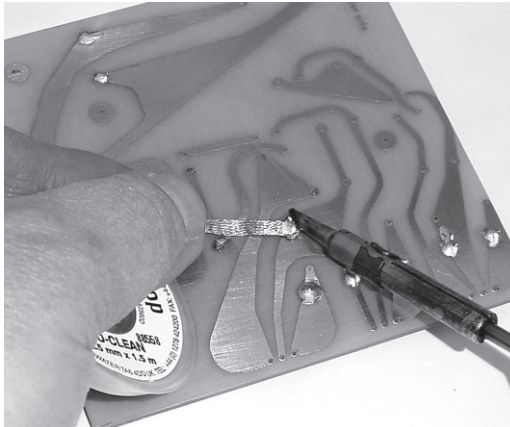

FIGURE 5.25 Desoldering using solder braid – the molten solder wicks into the strands of the solder braid away from the joint.
- **PLACE** the end of the solder braid over the joint to be desoldered, as shown in Figure 5.25